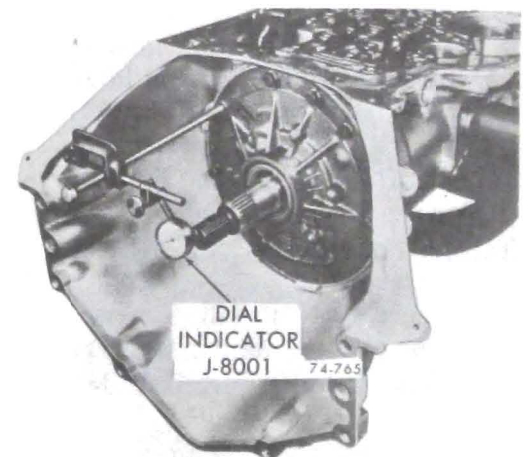

Figure 76-765
23. Check front unit end play as follows: See Figure 76-765.